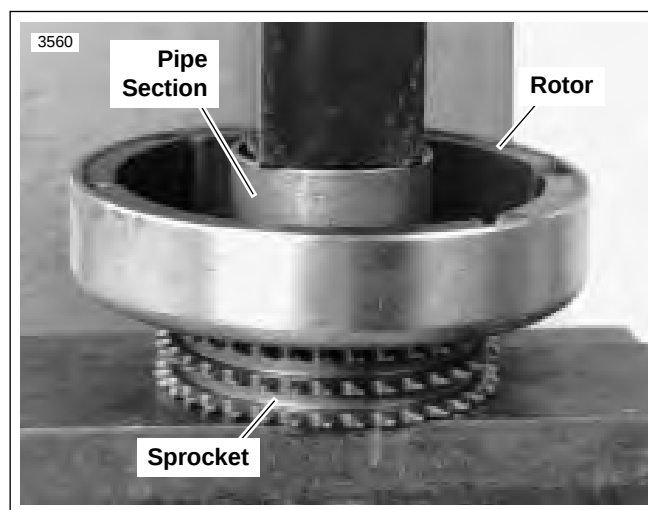

Figure 7-29. Pressing Rotor onto Sprocket
6. See Figure 7-29. Attach rotor to sprocket.